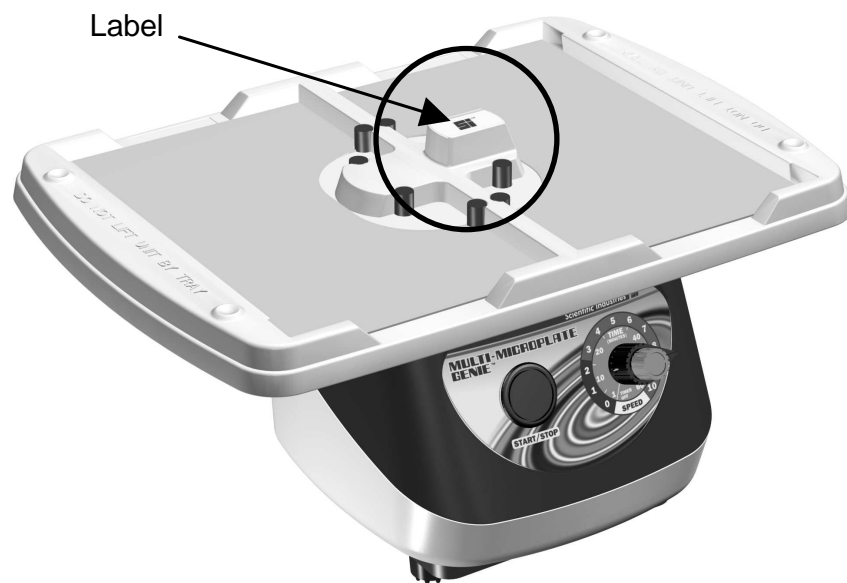

Figure 1
1.0 – Locate and remove the label in the center of the Multi-MicroPlate Genie Tray. (See Figures 1 and 2)